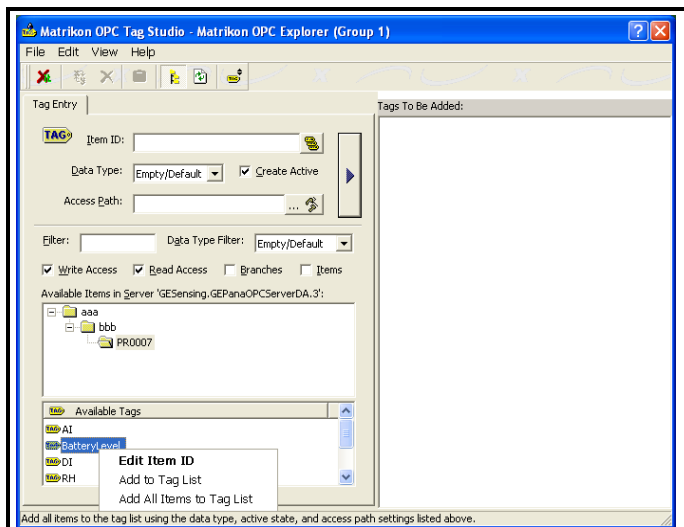

Figure B-14: The Tag Entry Window
- b. Click on the Add Items button, or right-click on the folder and click Add Items. The Tag window opens, shown in Figure B-14 on the next page.